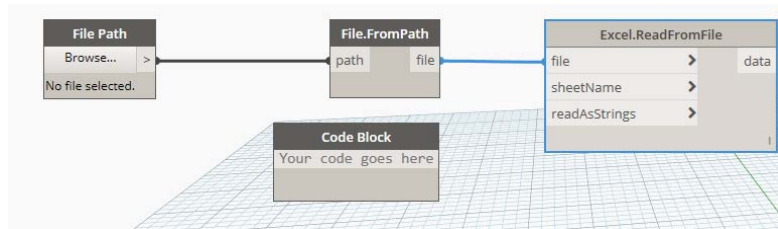

Figure 57
5. Wire the nodes as indicated in Figure 57.